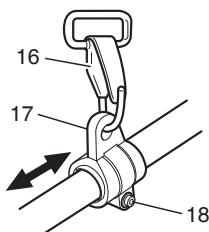

Fig. 7
Attach the harness hook (16) to the hanger (17) on the drive shaft tube. (Fig. 7)
You may need to adjust the position of the hangar (17) to balance the unit. To do so, loosen bolt (18) and adjust the position of hangar (17). After adjusting as necessary, make sure to securely tighten the bolt (18). (Fig. 7)